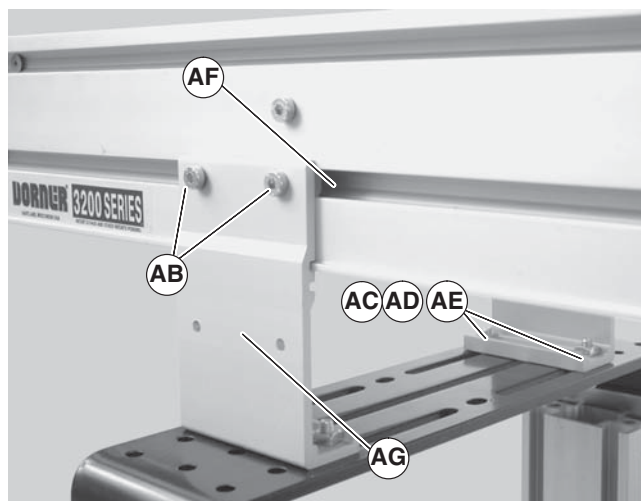

Figure 11
3. Insert T-bars (Figure 10, item AF) into conveyor side slots (Figure 11, item AF). Fasten brackets (Figure 11, item AG) to conveyor with mounting screws (AB).
4. Fasten brackets to support stand with mounting screws (Figure 11, item AC), washers (AD) and nuts (AE).
5. Tighten screws (Figure 11, item AB & AC) to 60 in-lb (7 Nm).